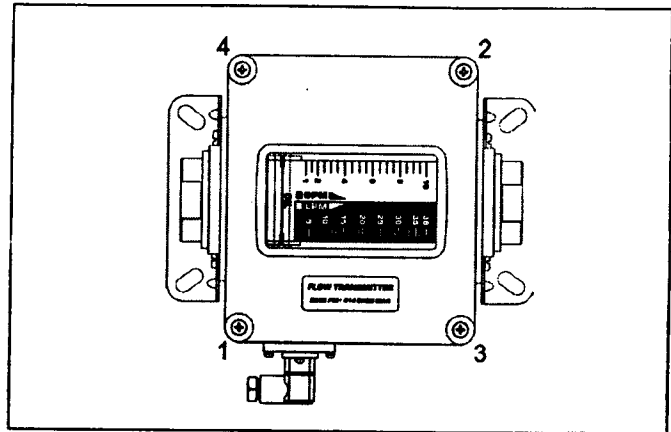

Figure 9. Cover Screw Tightening Sequence
4. Install the cover gasket and front cover and secure with screws. To properly seat the cover gasket, tighten cover screws in a criss-cross pattern as shown in Figure 9.